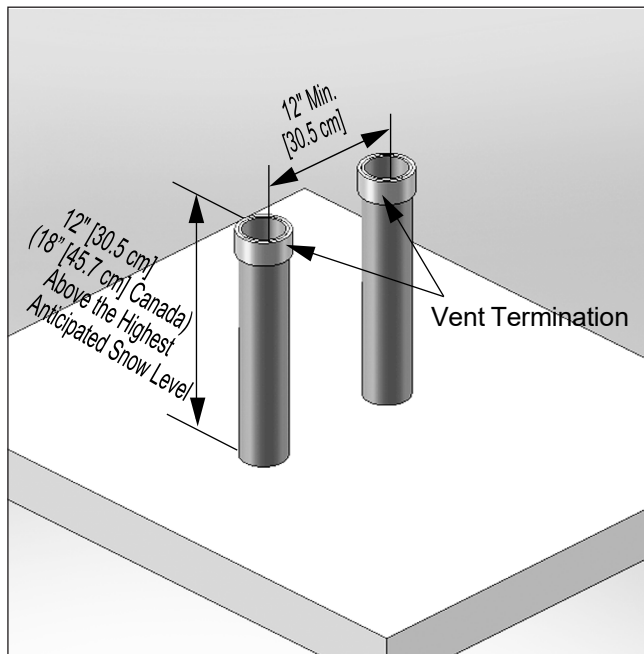
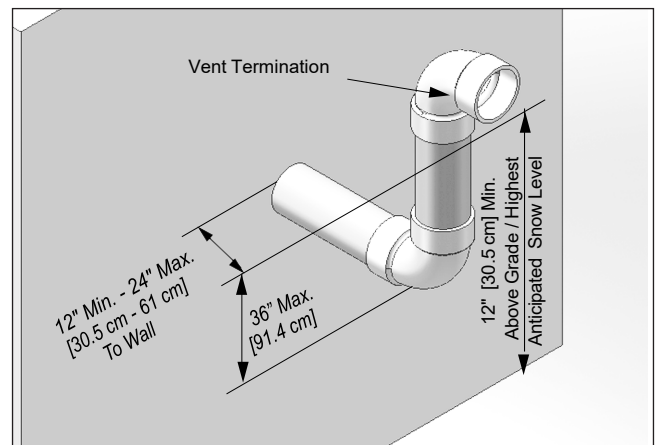

Fig. 17 - Category IV- Vertical Termination of Multiple INSTINCT Boilers
Fig. 19 - Category IV - Sidewall Snorkel Termination of Vent Pipe
2. Each vent termination must be a minimum 12" [30.5 cm] from the adjacent termination for installations in the U.S. as shown in Fig. 17 below. For installations in Canada, provide clearances as required by CAN/CSA B149.1.
- Using a 90° elbow as shown in *Fig. 19*.
3. Locate the vent pipe penetration to provide clearances as described in Fig. 17 on page 26 and Fig. 19 on page 27.
- Using a 90° elbow as shown in Fig. 19 on page 27.
Do not extend the vent pipe outside the sidewall beyond the dimensions shown in Fig. 17 on page 26 and Fig. 19 on page 27. Extended exposure of the vent pipe could cause condensate to freeze and block the vent pipe, resulting in substantial property damage, serious injury, or death.
- Fig. 19 shows one option for vent terminations of multiple INSTINCT boilers. Either termination option shown in Fig. 17 on page 26 or Fig. 19 on page 27 can be used for multiple INSTINCT boilers. The 12" [30.5 cm] minimum distance between centerlines of the vent piping must be maintained for any chosen option.
- Reference Fig. 17 on page 26 and Fig. 19 on page 27 for vent termination dimensions for each unit installed in a multiple installation.